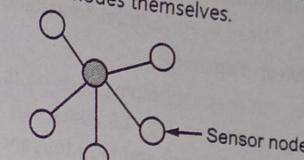

Fig. 4.4 : Star topology
- The star topology is shown in Fig. 4.4.